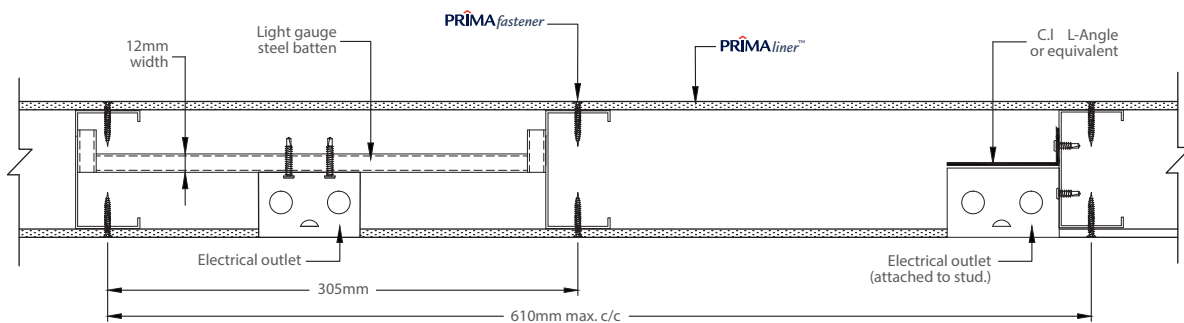

Figure 13: Electrical outlet in between section C-C and electrical outlet attached to stud
- b. Electrical socket can be reinforced with either light gauge steel batten or L-angle. Refer to Figure 13 for electrical outlet in between section C-C using light gauge steel batten and electrical outlet attached to stud using L-angle.